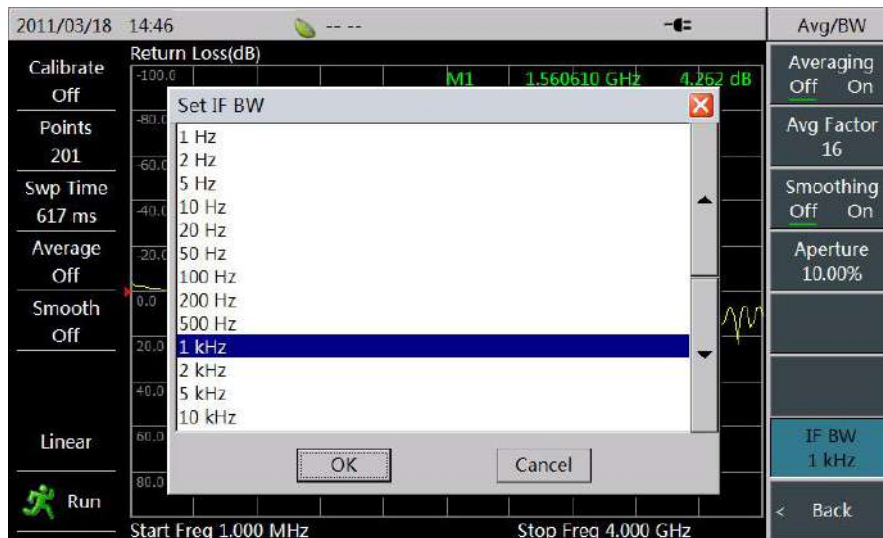

Figure 3-22 Set IF BW
- Click [IF BW] to pop up the “Set IF BW” list. Select the desired IF bandwidth by turning the knob, **【↑】** or **【↓】** or touching the selected items, and then click [OK] key on the IF bandwidth dialogue box or **【Enter】** key to complete setting, as shown in Figure 3-22: